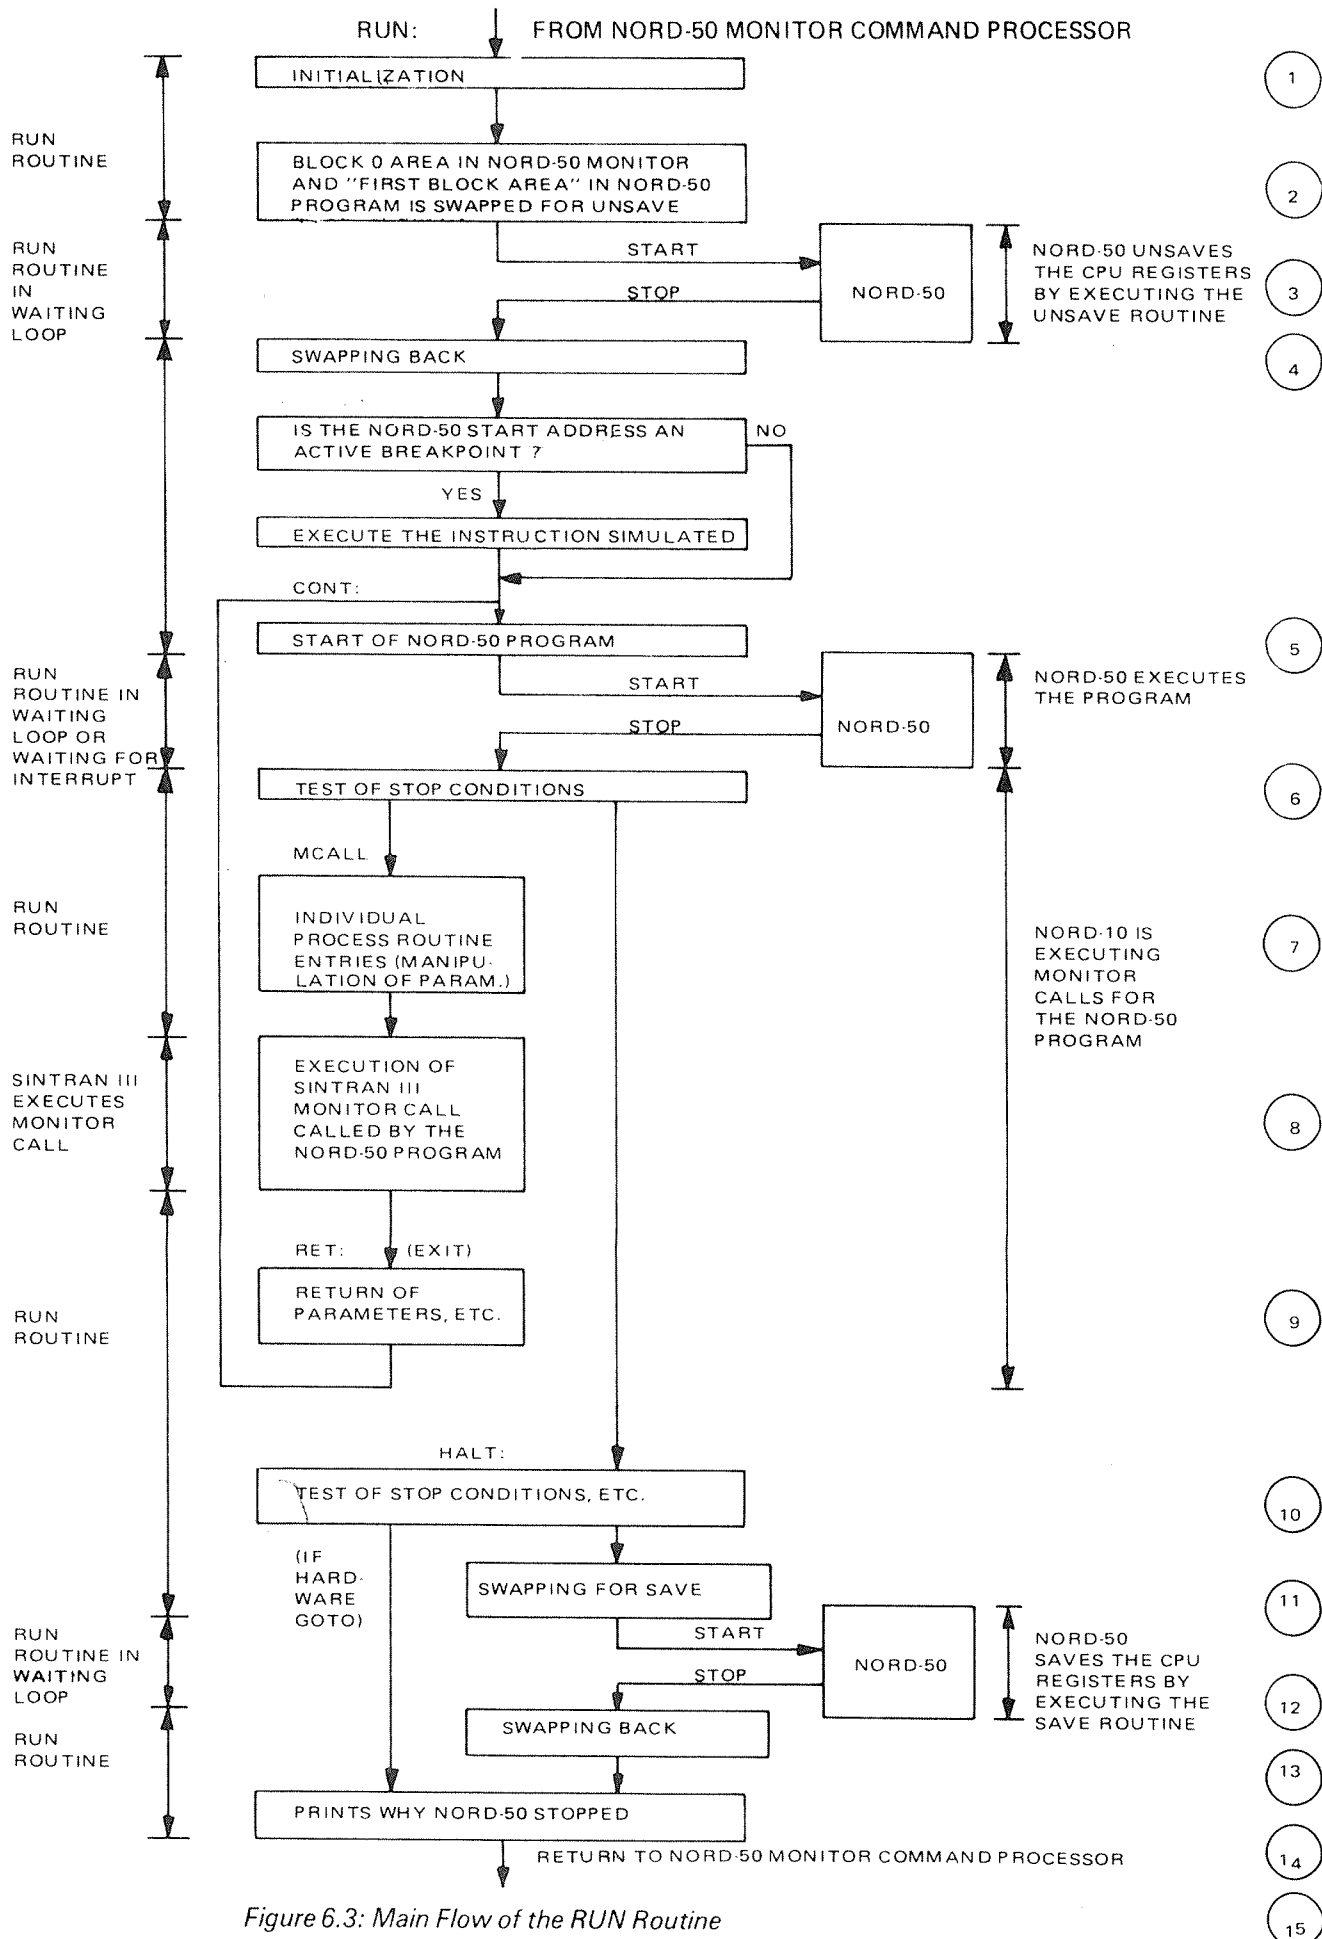

Figure 6.3: Main Flow of the RUN Routine
*Explanation of the flow chart — Figure 6.3:
(Refer to Figure 6.3 and Section 6.2.)
For each SINTRAN III Monitor call available to NORD-50 programs, the NORD-50 Monitor contains a process routine to transfer the parameters to/from the NORD-10 registers (refer to Figure 6.3).